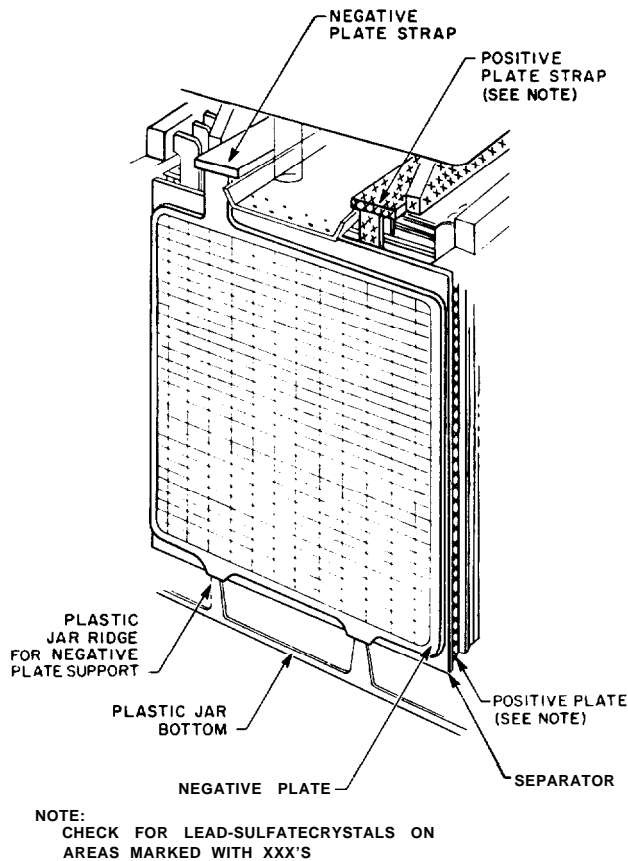

Fig. 5—Typical Rectangular Cell Showing Possible Location of Lead-Sulfate Crystals on Positive Elements
7.04 After a satisfactory **initial charge** and **float charge**, there should be no lead-sulfate crystals or gray coloration present on the positive plates or straps when examined with a flashlight. Normally, only the positive strap will be accessible for examination. In some arrangements the edges of the positive plates will also be visible. (See Fig. 5.) The visible positive elements shall be black or dark brown and totally free of any diamond-like lead-sulfate crystals or gray coloration. The disappearance of lead-sulfate crystals normally occurs in three distinct phases: